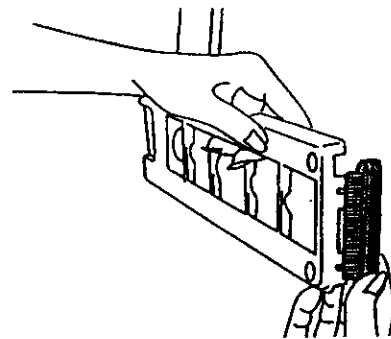

Fig. 2
**Basic operation** of the clean air system in these units is illustrated in Figure 2 on page 2.
Rubber edge groomers on bottom plate are replaceable to remove slide off of plate (Fig. 2).